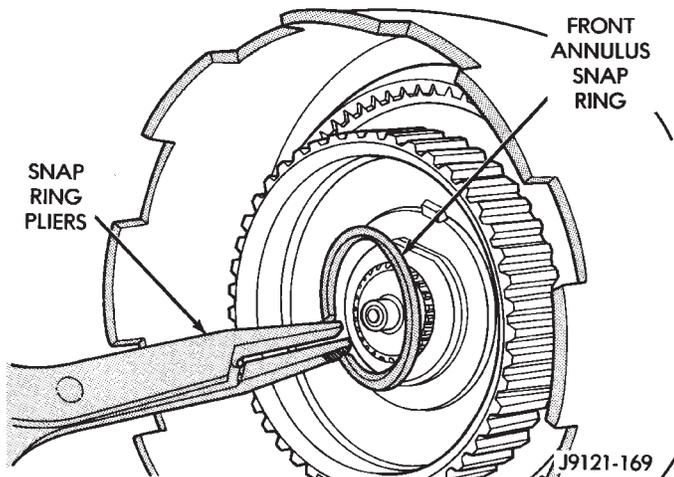

Fig. 205 Installing Front Annulus Snap Ring
(20) Install front annulus snap ring (Fig. 205). Use snap ring pliers to avoid distorting ring during installation. Also be sure ring is fully seated.